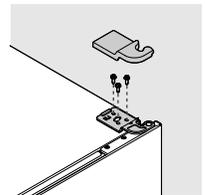

Figure 5
13. Align the new upper hinge and install M5x16 hex head screws with a wrench or socket (see Figure 5).